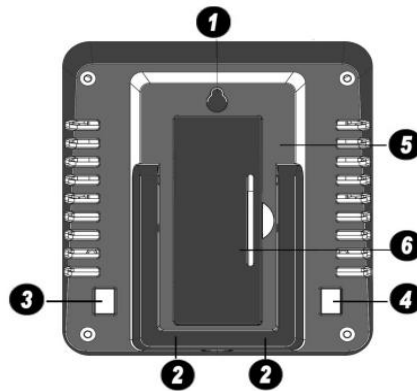

Figure 2
- Remove the battery door on the back of the display, as shown in Figure 2. Insert one AA (alkaline, lithium or rechargeable) battery in the back of the display console.